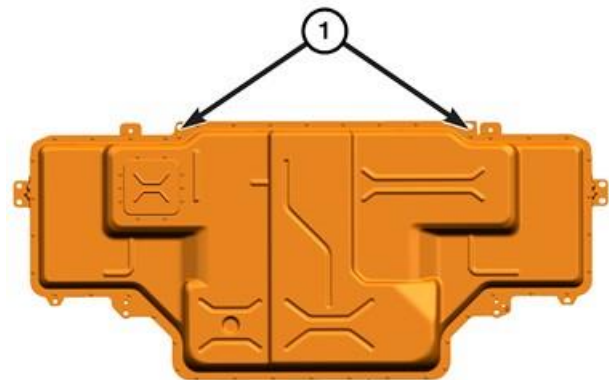

Figure 38 – Support Mounting Holes
41. Install two Eyebolt, 10mm 2035203080 with the nuts to the front support mounting holes (1) (Figure 38).